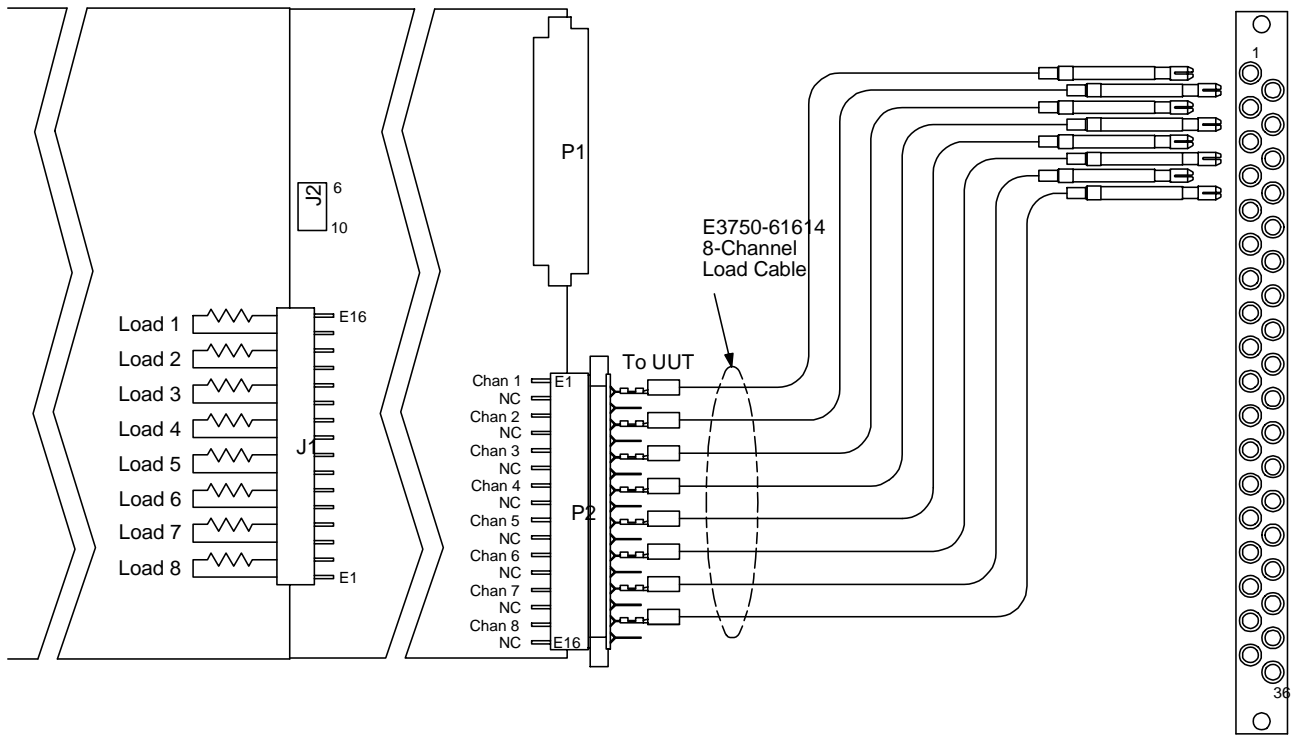

Figure 2-11. Agilent E6175A 8-Channel Load Card Cabling to High Power ICA Fixture Block
8-Channel cards If there are no 24-Channel or 16-Channel cards, start in slot 13 (or 21) of the mass interconnect. Install one Agilent 09420-20003 Coax connector block for every four (4) 8-channel load cards. Starting with pin one, load the 8-channels in channel number order. See Figure 2-11. The second 8-channel card uses pins 9 – 16. The third and fourth 8-channel load cards use pins 17-32. Leave the last four holes in the Agilent 09420-20074 Coax connector block unused.